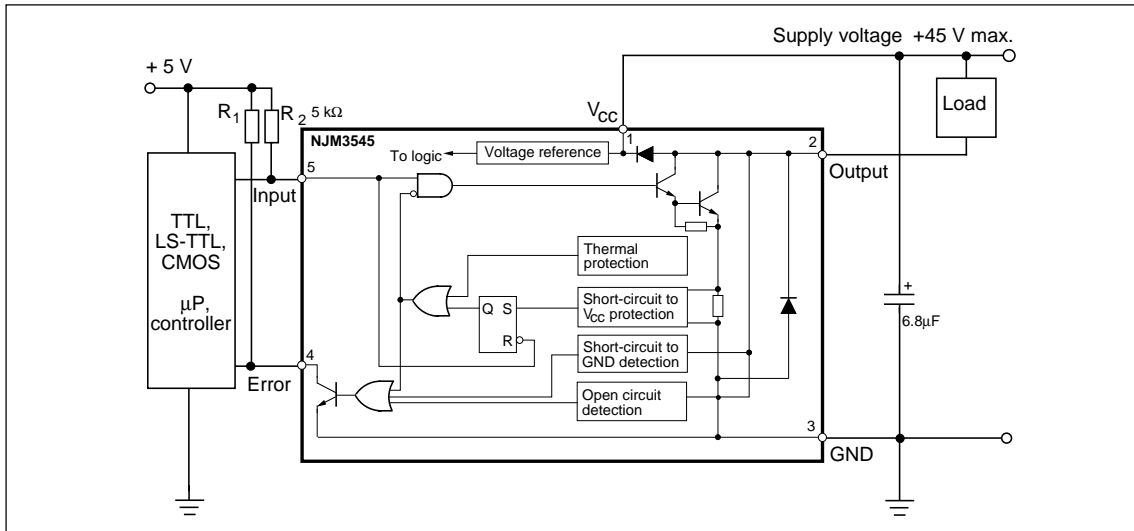

Figure 11. Typical application. Pin numbers refer to TO 220 package
3. Connect Input and Error via pull-up resistors to the appropriate logic supply level or  $V_{CC}$  to obtain highest noise immunity. See figure 11. The resistor  $R_1$  limits the current into the Error indicating pin. This current must not exceed 8 mA.  $R_2$  is a pull-up resistor which improves noise immunity at the Input. Pull-up current should not exceed the sinking capacity of the controlling device output.